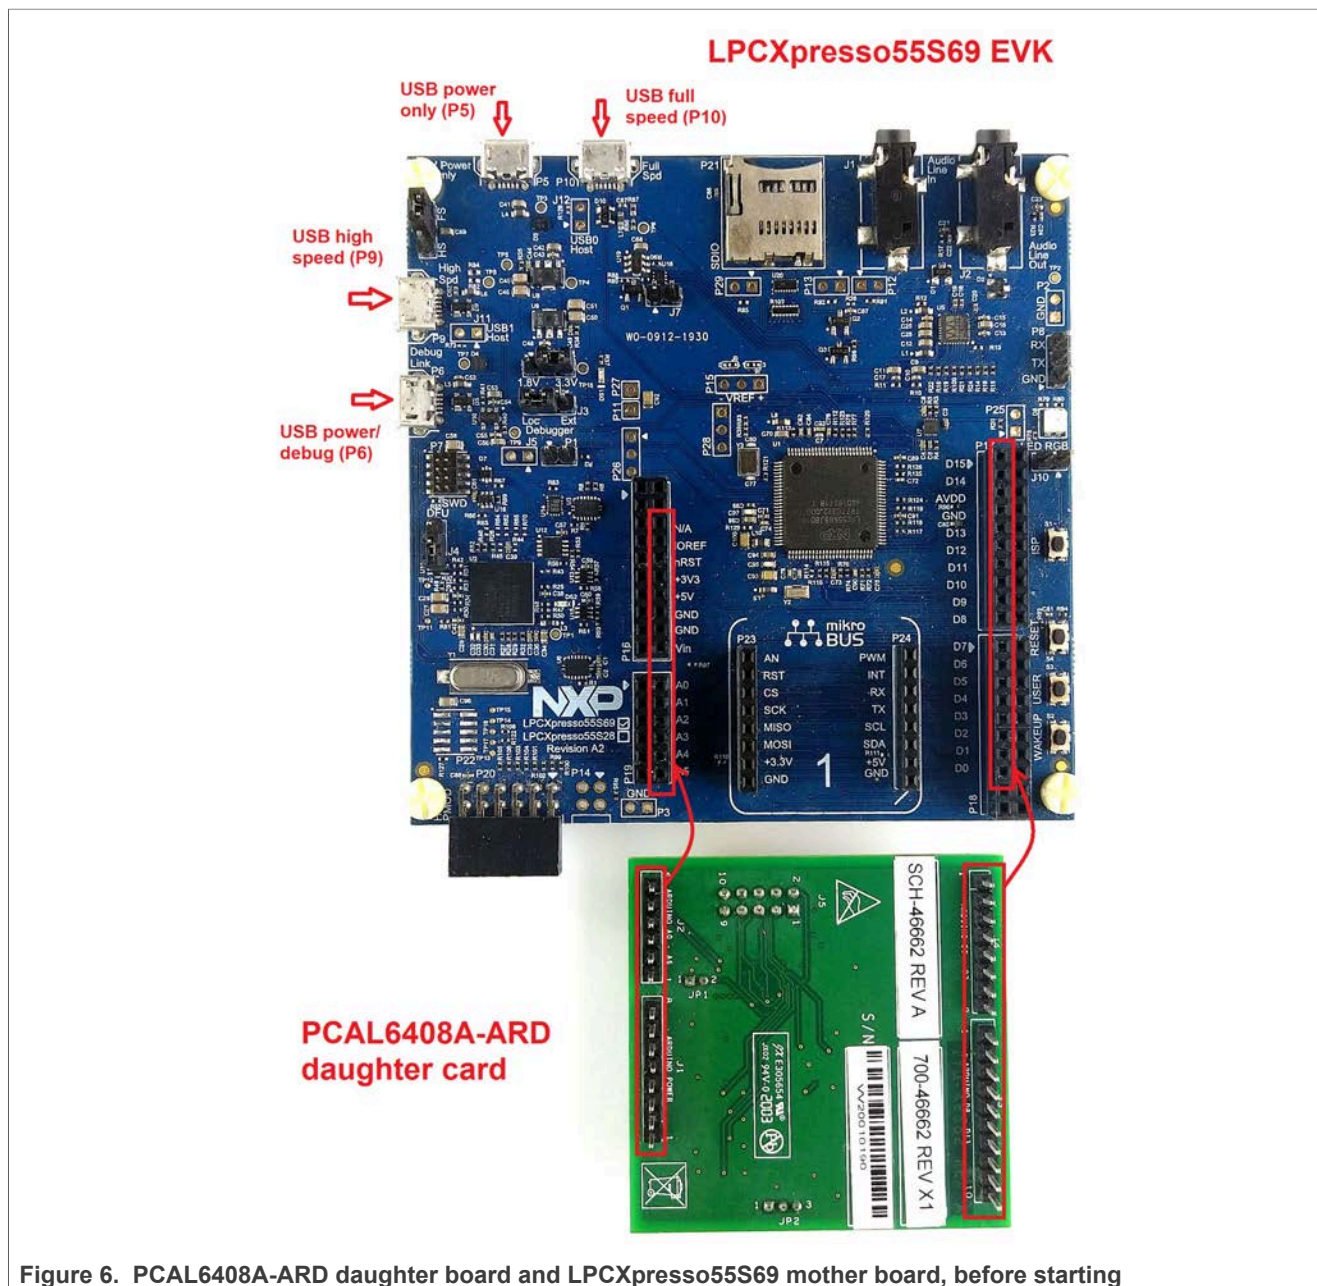

Figure 6. PCAL6408A-ARD daughter board and LPCXpresso55S69 mother board, before starting
From J1 on the EVK board (see Figure 6) the user can select the power configuration for the mother board. For further details, refer to the MIMXRT1050 EVK Board Hardware User's Guide.
Figure 6 shows the required hardware for operation of the PCAL6408A-ARD and LPCXpresso55S69 EVK board. This configuration consists of:
The following steps describe how to assemble, program, and operate the configuration shown in Figure 6.
1. Insert the PCAL6408A-ARD daughter card to P16 – P19 connectors located on LPCXpresso55S69 development board (see the marked pins of P16 – P19, Figure 6)